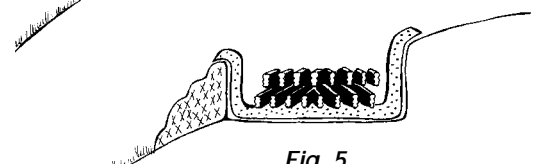

Fig. 5
5. Stack a minimum of six Eljen Reservoir Units (three units wide by two units high) for each four feet of trench length. (See Fig. 5)